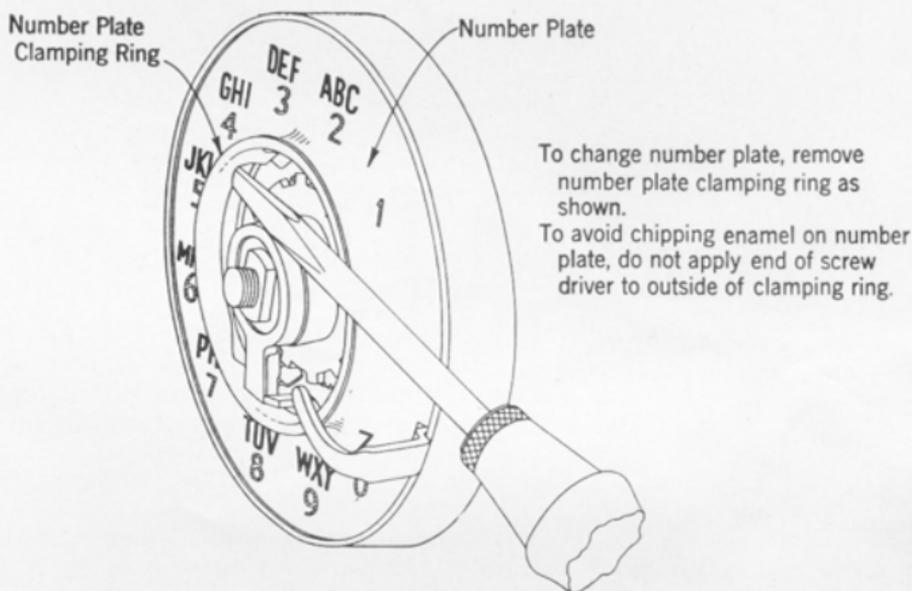

Fig. 7—Removal of Clamping Ring
11.01 To change the number plate, remove card holder, finger-wheel nut, washer, finger wheel, and then remove number plate clamping ring as shown in Fig. 7.